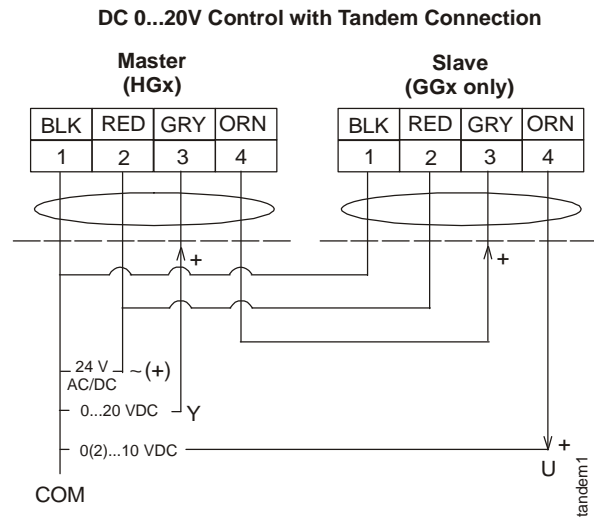
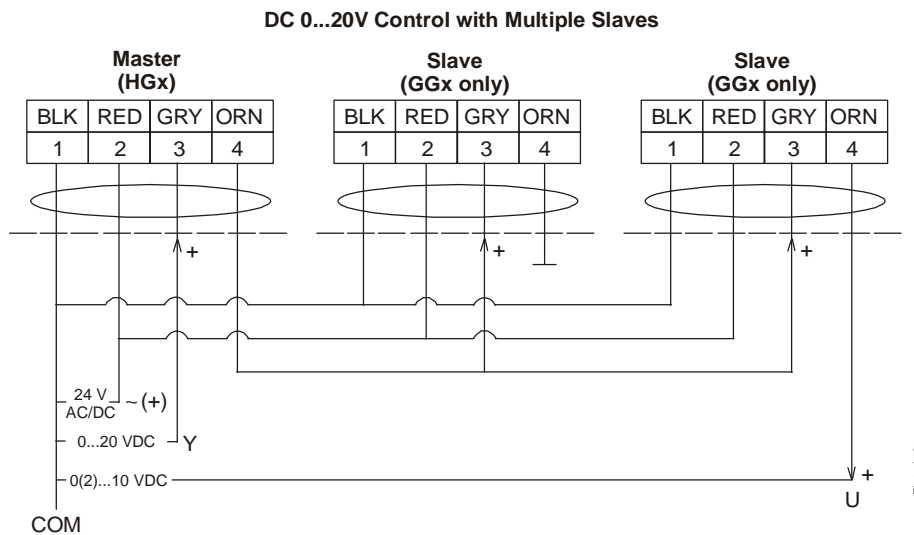

Figure 16: Tandem Connection
Figure 17: Tandem Connection - Three Actuators
The tandem configuration (Figure 16 and Figure 17) provides twice (with two actuators) or triple (with three actuators) the running and spring return torque of a single actuator (354 lb-in [40 N·m], 531 lb-in [60 N·m]). One GGx actuator may be mounted in tandem with one HGx model using the M9000-158 Tandem Mounting Kit. To mount a third actuator, user-configured bracketing is required.
- One M9220-HGx-3 actuator and one or two M9220-GGx-3 actuators may be operated in tandem on the same shaft. If mounting two actuators, see Figure 16; for three actuators, see Figure 17.